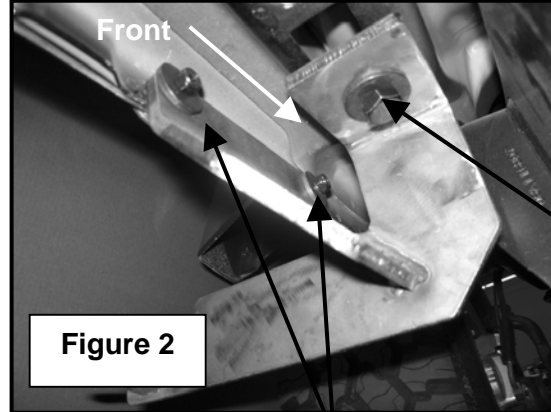

Figure 2
3. Locate two factory holes on the front driver side pinch weld. Attach the Front Driver Side Mounting Bracket to the pinch weld using the included (2) 6-1.00mm x 25mm Allen Bolts, (2) 6mm Nylock Nuts, (2) 6.5mm ID x 18mm OD x 1.6mm Flat Washers (for the out side) and use (2) 6.3mm ID x 23mm OD x 3.2mm Flat Washers (for the inside against the bracket) (Figure 2). Do not tighten at this time.
4. Attach the Front Driver Side Mounting Bracket to the side panel using the included (1) 10-1.50mm x 35mm Hex Head Bolt, (1) 10mm Lock Washer, and (1) 10mm Fender Washer, (Figure 2). Do not tighten at this time.